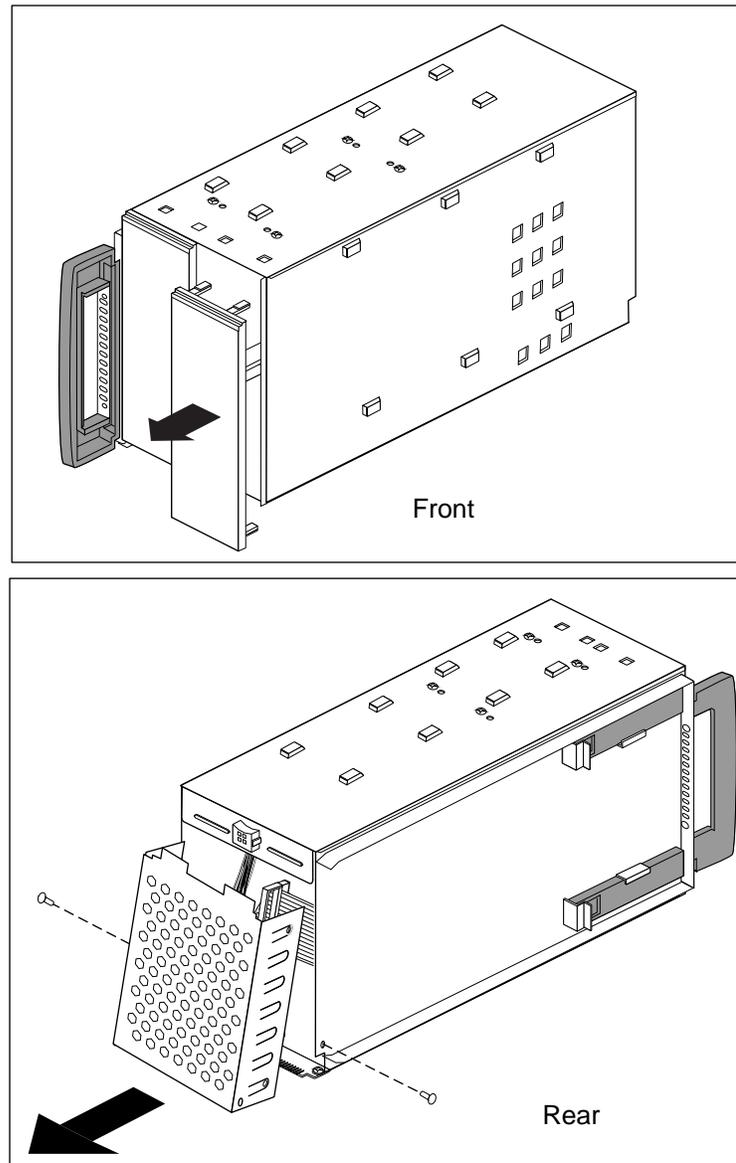

Figure 7-4 Removing a Blanking Plate and the Rear Access Plate from the Peripheral Carrier
2. Prepare the peripheral carrier, as shown in Figure 7-4.